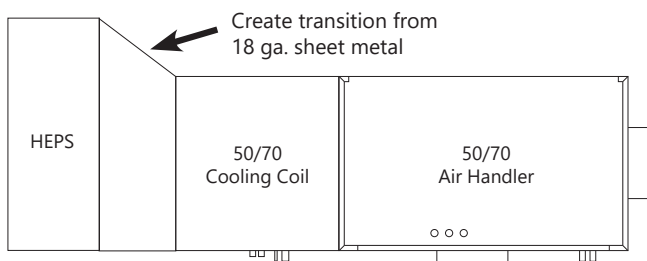
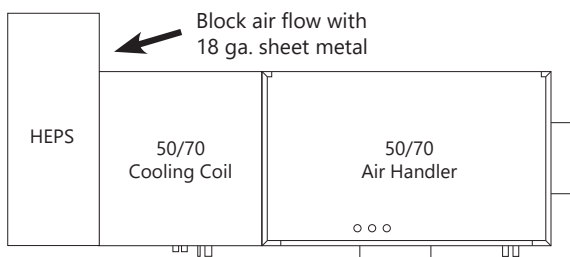

Fig. 4 Transition Example
Fig. 5 Block Air Flow Example
4. When installing the HEPS to a Hi-Velocity 50 or 70 air handler, a transition should be made (Fig. 4) or simply block air flow with a piece of sheet metal (Fig. 5).